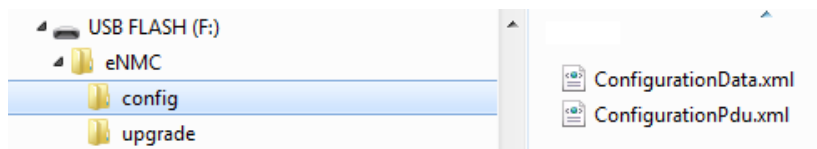

Figure 52. Example USB Root with eNMC Config Directory
7. Click **OK** to continue when a successful pop-up message displays the following (see Figure 52):